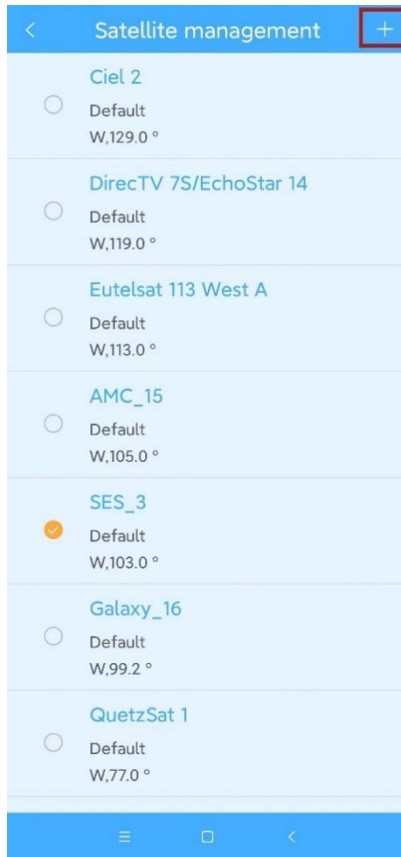

Figure 7-18
12. If not, click on the "+" in the upper right corner to enter the satellite addition interface, as shown in Figure 7-18. Enter the satellite name and longitude, click "Save" to complete the addition, as shown in Figure 7-19. Then return and check the newly added satellite to appear in the satellite selection list, as shown in Figure 7-20.